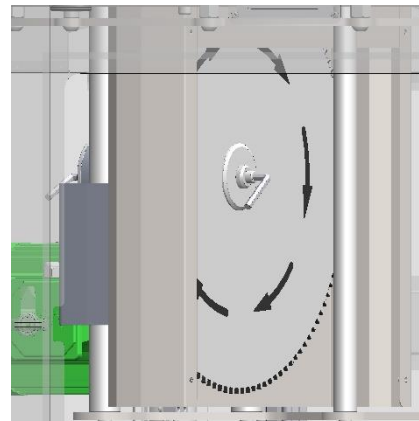

Figure 4
- 8.1.3. Remove the M10 screw by turning with a 8 mm allen key (Hold the saw blade shaft at the opposite end with a other 8 mm allen key and prevent so that the shaft turns). (Figure 4, 5)